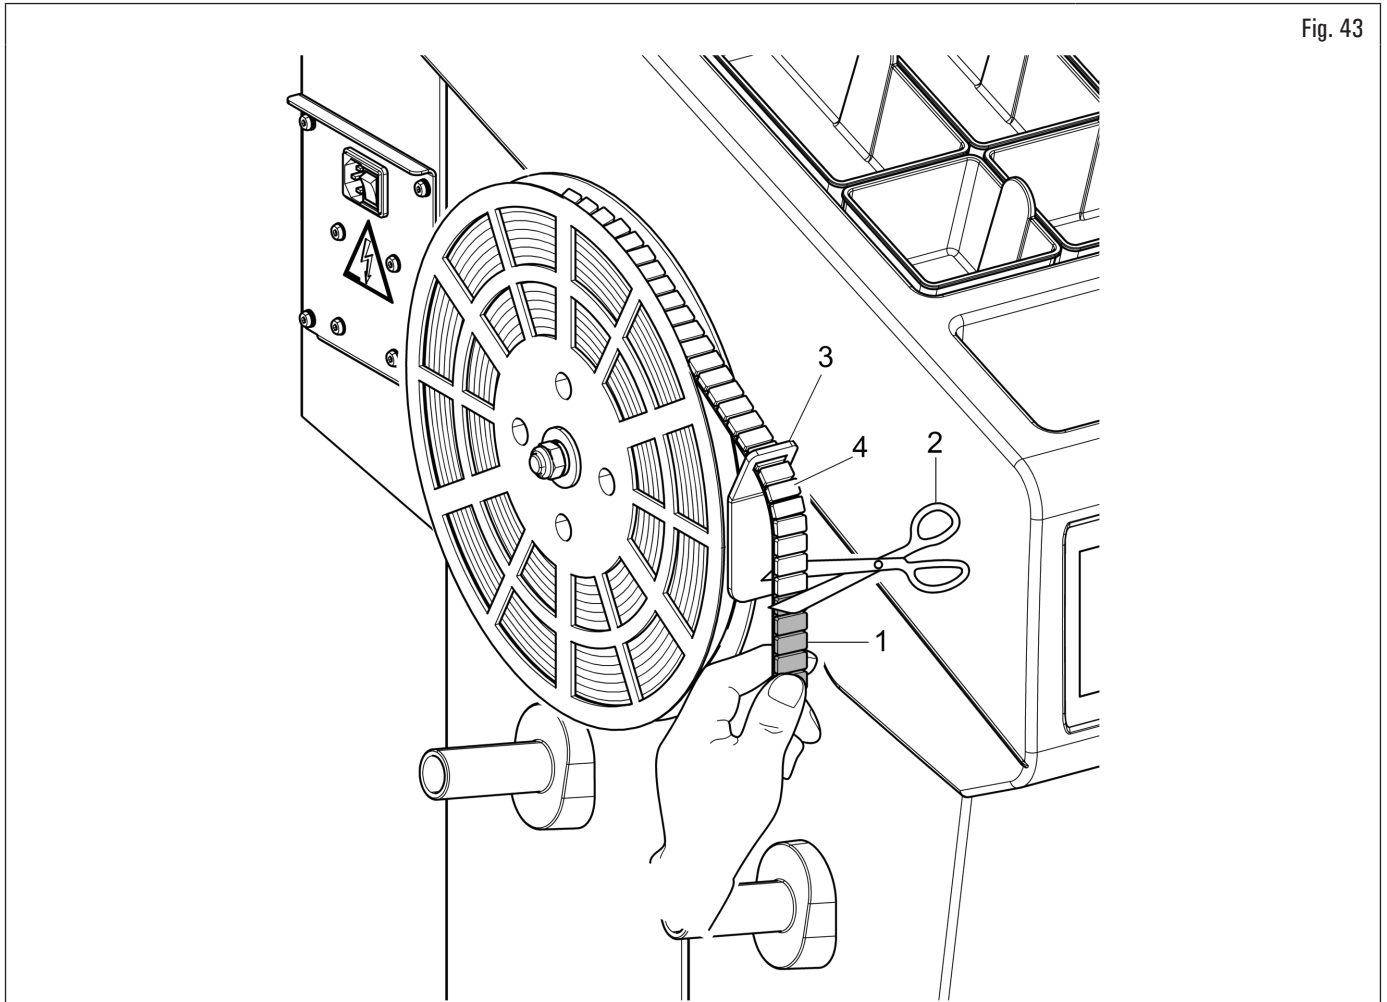

Fig. 43
After the first balancing phase, when the program highlights the weight to be applied to the wheel, simply remove the necessary number of weights (Fig. 43 ref. 1) to reach the quantity required by the equipment and, using scissors or a suitable cutting device (Fig. 43 ref. 2), separate the desired quantity (Fig. 43 ref. 1) from the roll, as shown in the figure below.
To prevent the roll weights from slipping out of their support (Fig. 43 ref. 3) after cutting, make sure to always let a sufficient number of weights (Fig. 43 ref. 4) (at least 7-10 weights) protrude from the support itself, as shown in Fig. 43.